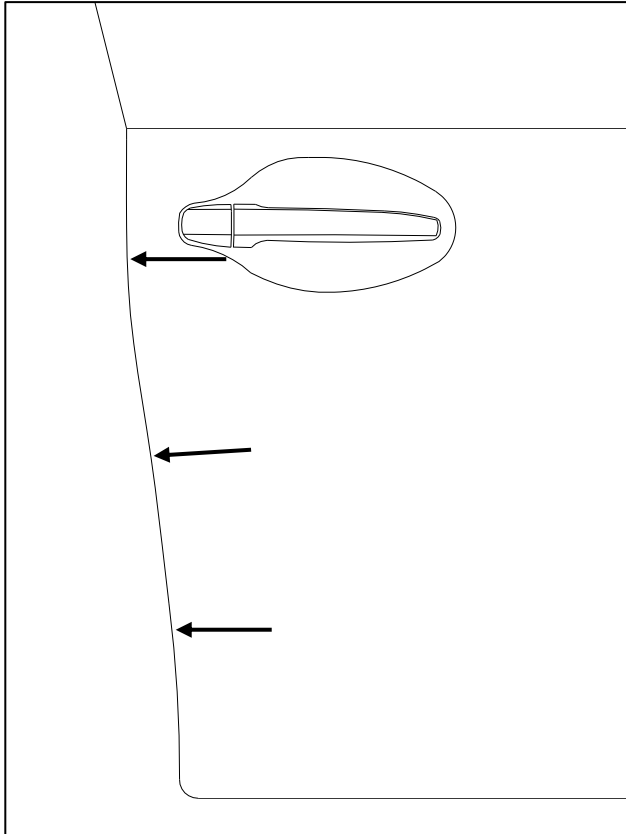

Fig. 1-8
- (j) Open front passenger door and clean and dry trailing edge of door as needed with distilled water and lint free towel. (Fig. 1-8)